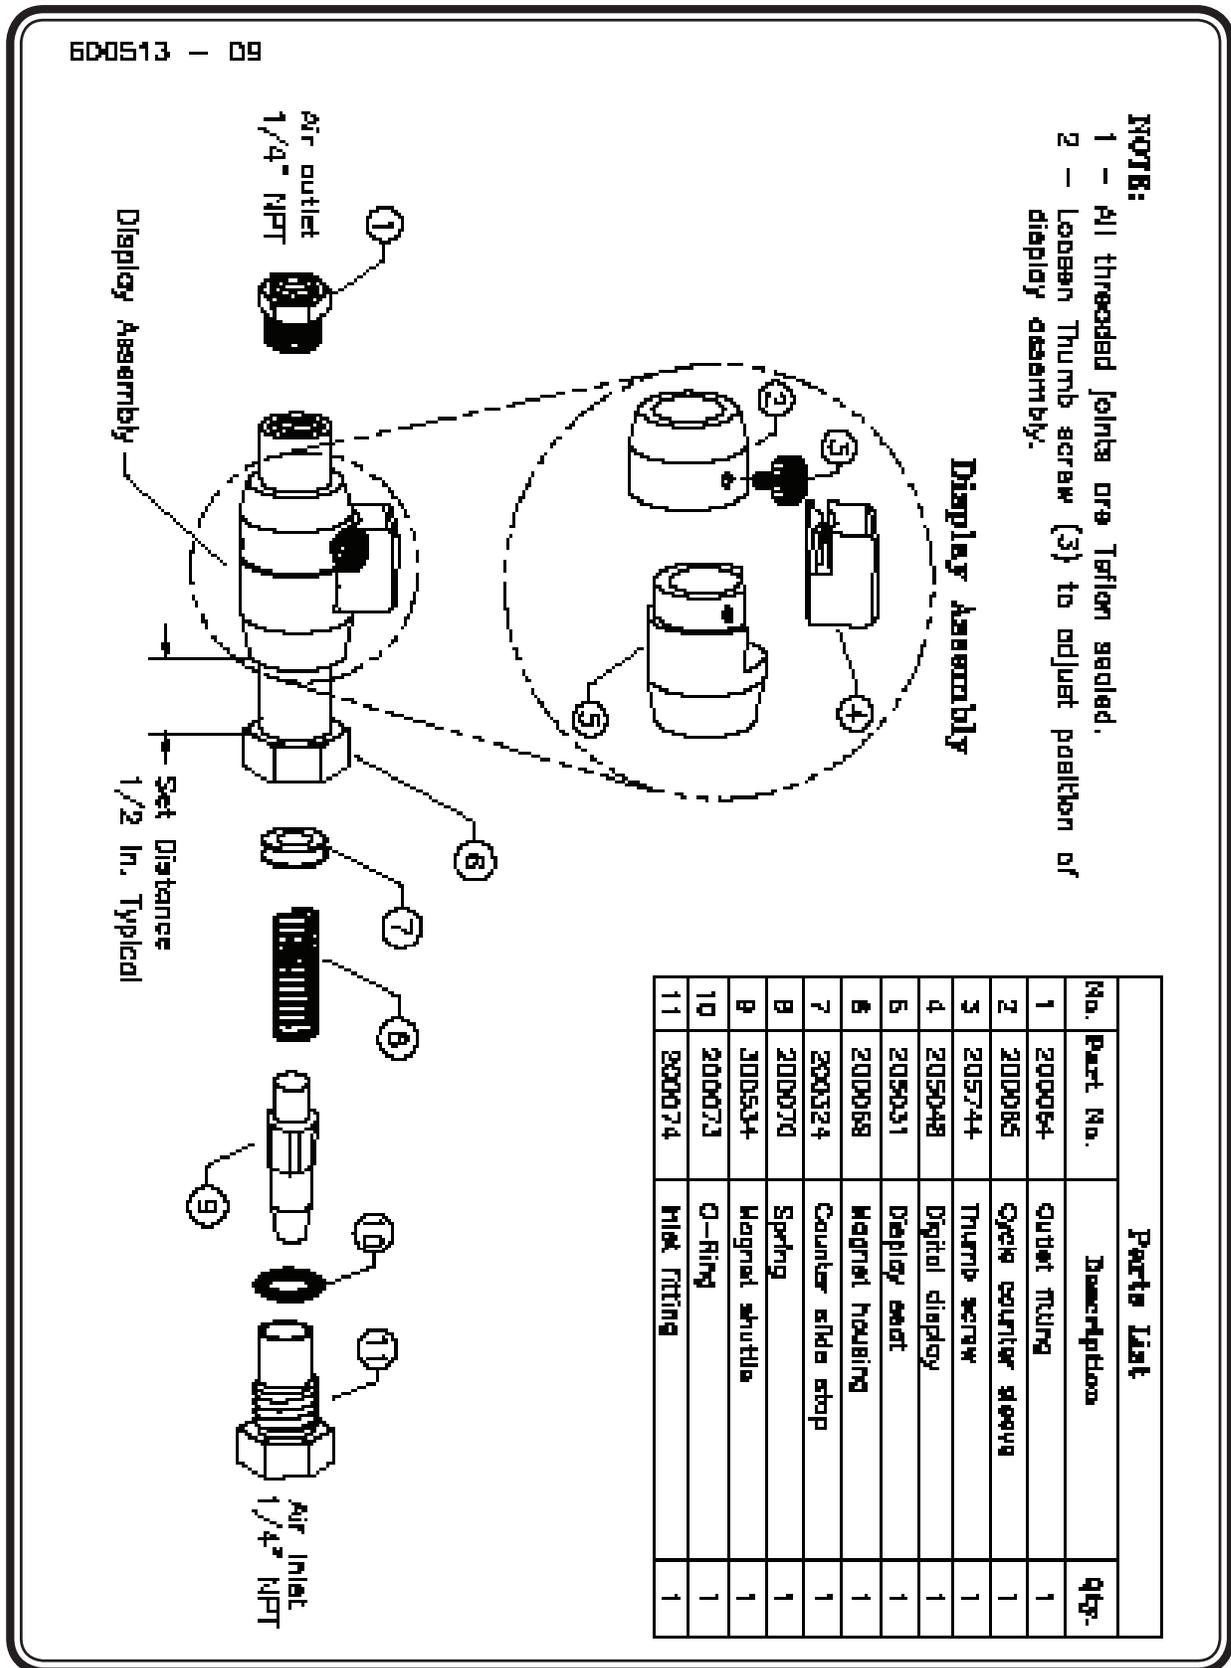

Figure 38 - Pump Cycle Counter Exploded View
- STEP 1 -** Loosen, but do not remove, the thumb screw (**item #3**) that locks the Display Assembly. (See **Figure 38**)
Sometimes the PCC does not count due to either the magnet shuttle or the spring hanging up inside the magnet housing. The counter components can be cleaned by *gently* washing the unit in warm water. A soft brush may be used to remove debris. To clean the inside, follow these instructions: (See **Figure 38**)
As a precaution, mark and/or measure with a pencil, the set distance (See **Figure 38**) so that it can be reset in the same position should movement occur. Do not loosen the thumb screw (**item #3**) since movement of the Display Assembly is unnecessary for cleaning.
Assembly of the Digital Display (Figure 38)
- STEP 1 -** Seat the digital display (**item #4**) on the flat of the display seat (**item #5**). (See **Figure 38**)